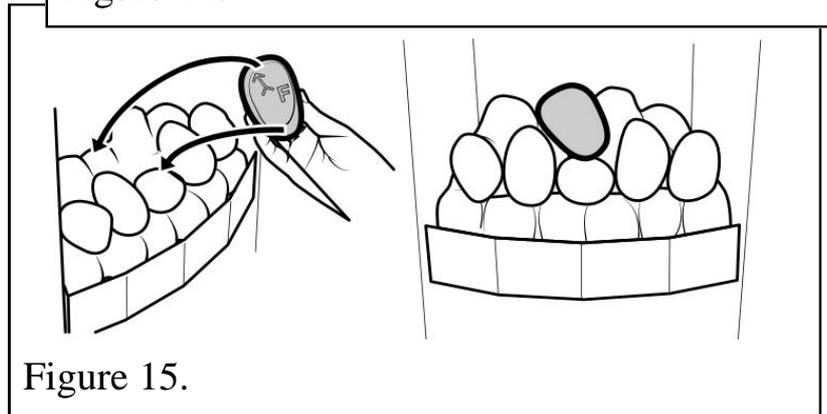

Figure 15.
8. Hold pebble 'F' upright with the arrow pointing to the top. Place pebble 'F' on top of pebble 'C'. It should rest against the rear of the pebble base (See figure 15).